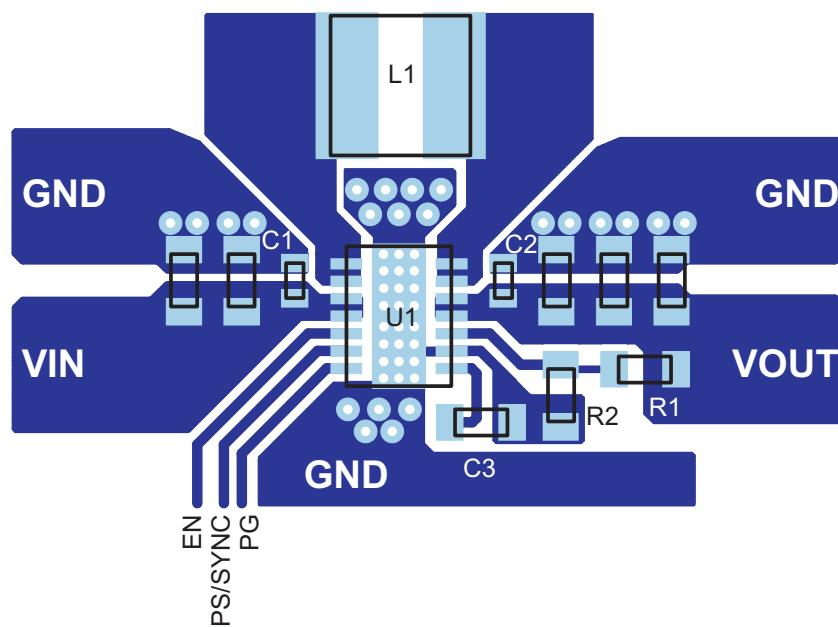

Figure 24. PCB Layout Suggestion
- Updated Figure 24 - PCB Layout Suggestion 21